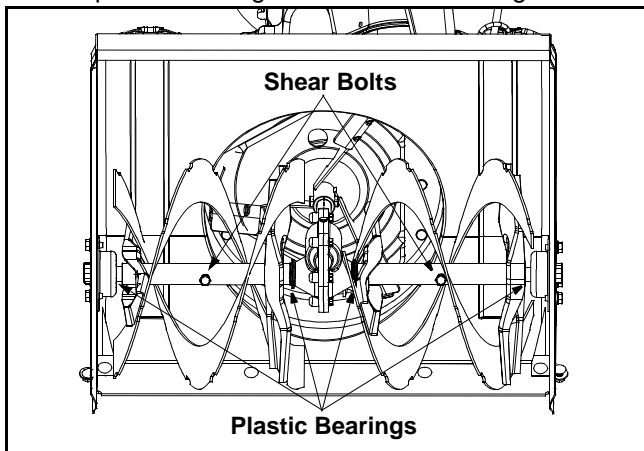

Figure 13
- At least once a season, remove the shear bolts on the auger shaft. Oil or spray lubricant inside and on the plastic bearings on the shaft. See Figure 13.
- The augers are secured to the spiral shaft with two shear bolts and hex lock nuts. If you hit a hard foreign object or ice jam, the snow thrower is designed so that the bolts may shear. Refer to Figure 13.